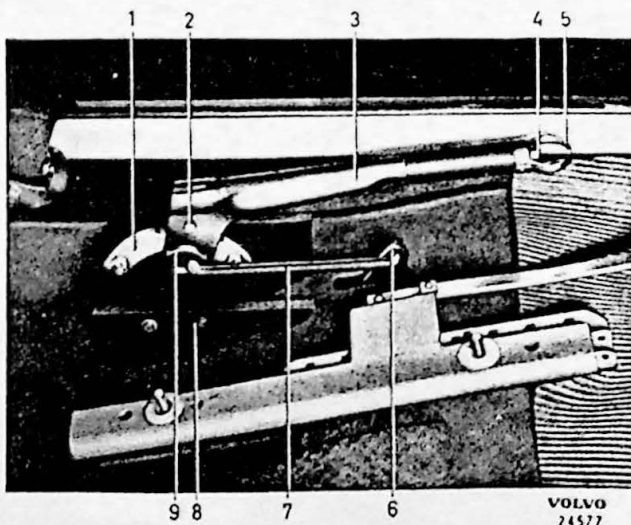

Fig. 7-31. Handbrake lever
2. Remove the split pin and washer at the shaft lever (6, Fig. 7-31). Turn the pull-rod (7) so that it can be removed from the handbrake lever. Remove the ratchet segment (1).
3. Unscrew the bolts for the support attachment (8) and drive out the stud and attachment. Lift off the lever (3).
2. Release the handbrake and disconnect the pull-rod (7, Fig. 7-31) from the shaft lever (6).